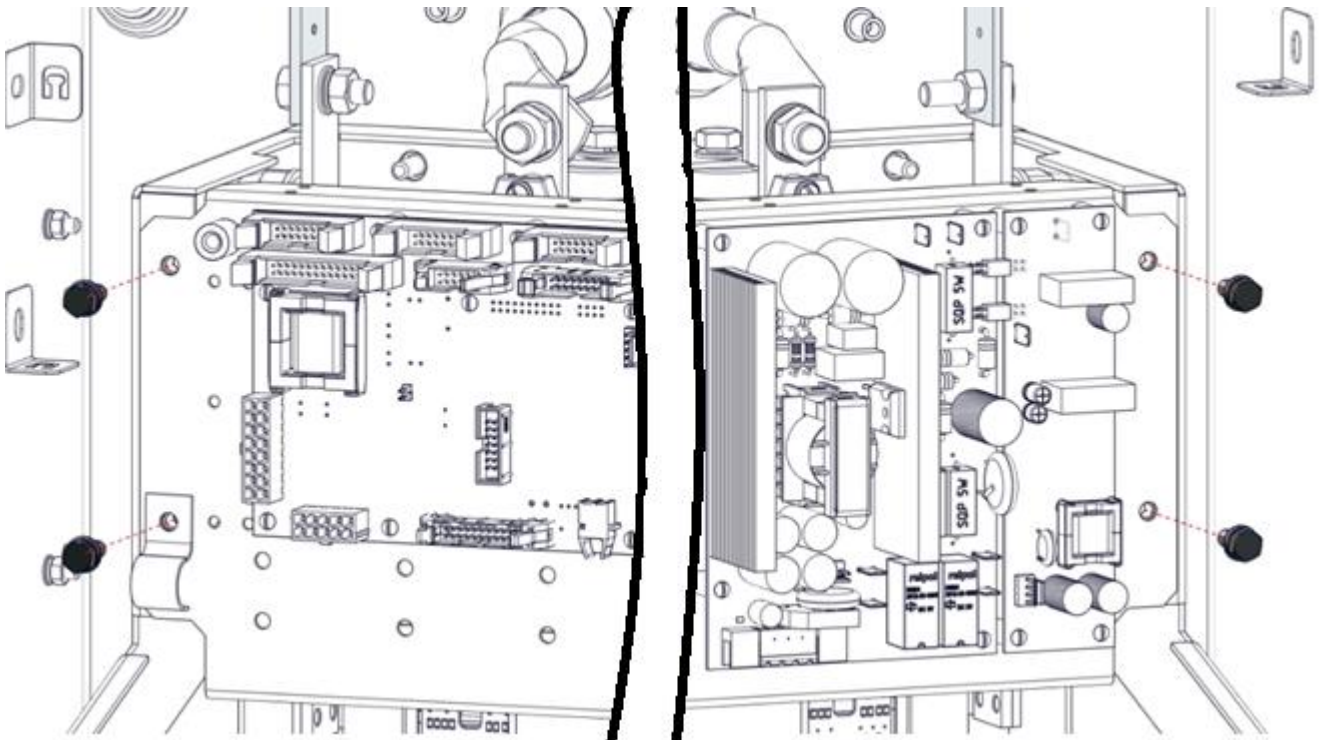

Figure 29 – Unscrewing fixing bolts
2. Uncrew four bolt shown on the figure 29. Use wrench size 10 mm (13/32").